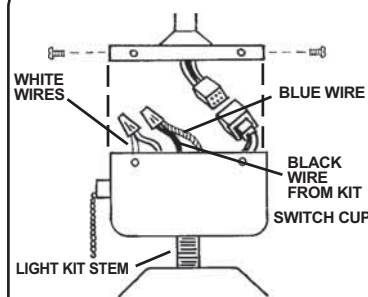

Fig 19
Step 4. Locate the Blue and White wires inside the switch cup marked "for light" and remove the plastic wire nuts. Connect the blue wire to the black wire from the light kit using the plastic wire nuts. Next connect the white wires together. (Fig.19)
Step 5. Tuck all wires into the switch cup and reinstall the switch cup onto the fan. (Fig.19)